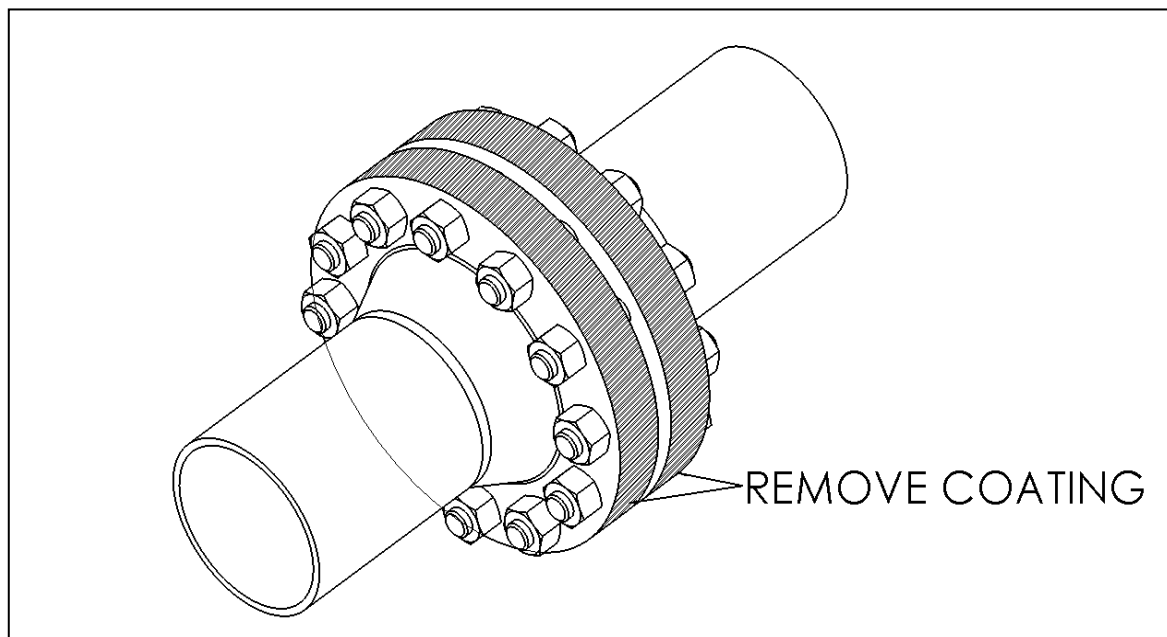

Figure 1
1. Remove all coatings, rust and scale from the flange surface where the circumferential seals of the PLIDCO Flange+Repair Ring will contact the flanges (see Figure 1). A near-white finish, as noted in SSPC-SP10 / NACE No.2, is preferred. The cleaner the flange outside diameter surface the more positive the seal.